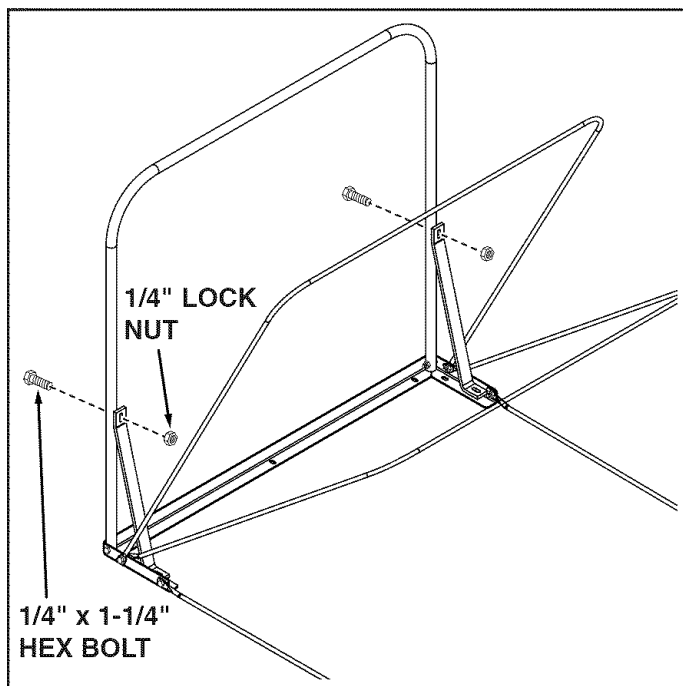

FIGURE 20
- Attach the braces to the front support tube using two 1/4" x 1-1/4" hex bolts and 1/4" lock nuts. **DO NOT TIGHTEN YET.** See figure 20.